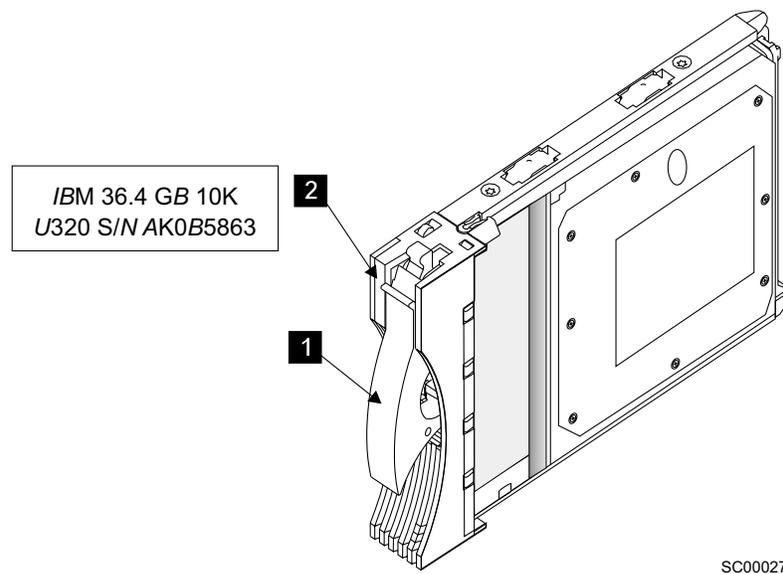

Figure 42. Disk drive module handle and capacity (2104 Model DS4 or Model TS4)
- You have the correct disk drive module. Figure 42 shows the disk drive module for the 2104 Model DS4 or Model TS4. The front of the disk drive module has a handle **1** that you can pull up to open. Verify the size of the disk drive module. The size of a disk drive module is on the label **2** at the front of the disk drive module.